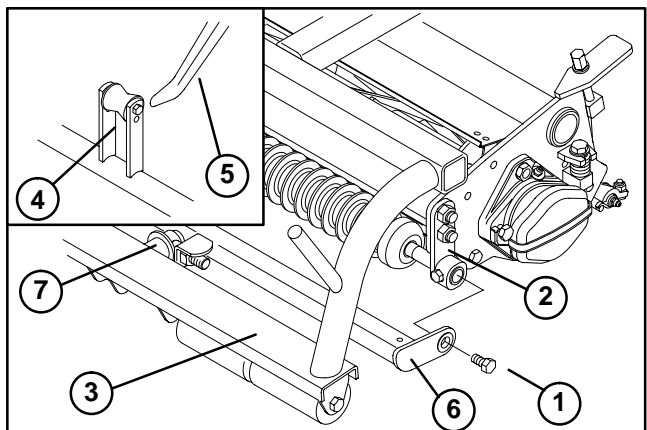

Figure 21
4. Remove both shoulder bolts securing the front roller axle to the pull frame (Fig. 21).
5. Slide center ball joint loose and remove pull frame (Fig. 21).
6. Slide the cutting unit lift roller off the lift arm while sliding the cutting unit under the pull frame (Fig. 21).
3. Slide the cutting unit under the pull frame while hooking the lift roller onto lift arm (Fig. 21).
4. Connect center ball joint on pull frame to the carrier frame (Fig. 21).